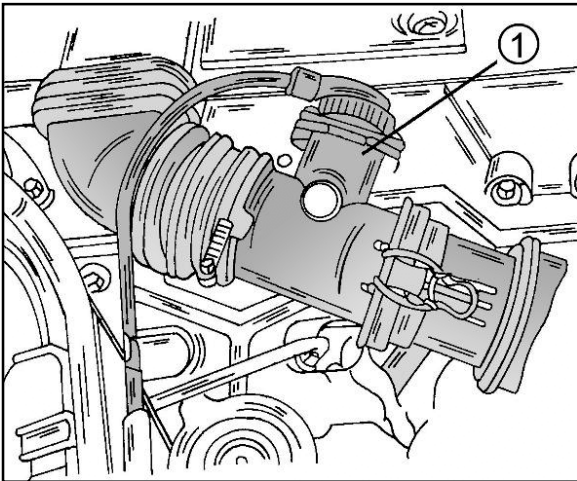

Fig. 1.6 – The location of the “hot film” air mass meter (1) in the air intake hose.
- Remove the so-called hot film mass sensor. This item can be found at the position shown in Fig. 1.6 (only models with hot film air flow sensor).